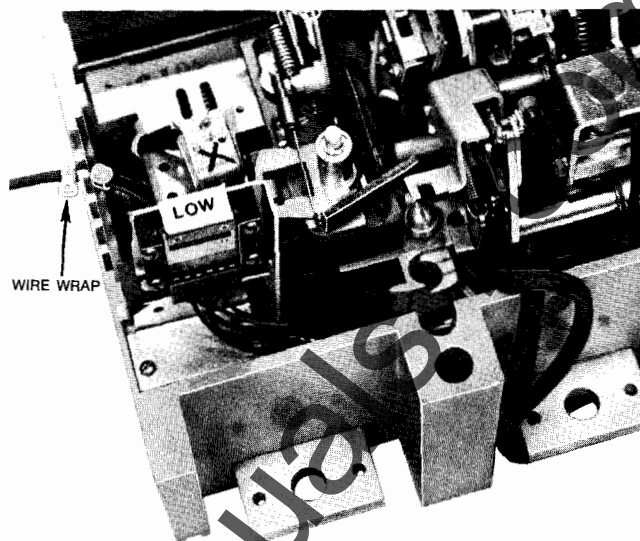

Fig. 11.
2. Lift out accessory mounting plate and remove molded drive crank. (Fig. 11).
3. Fasten three (3) retaining screws, see Fig. 11 and torque to 20 inch-pounds (2 small screws) and 75 inch-pounds (large screws with tubing).
4. Attach wire-ties to leads and secure to mounting plate as shown in Fig. 11.
5. Insert leads into knockout in base sidewall making sure one wire tie is on the inside of the base and the other is on the outside. See Fig. 11.
8. Remove knockouts as required in side of base. Each knockout will accommodate up to three bundles of wires (Fig. 11). Remove all sharp edges with a file.
10. Use the tie wraps provided to secure leads to mounting plate and to secure the wire bundle to inside and outside of the breaker base as shown in Fig. 11.